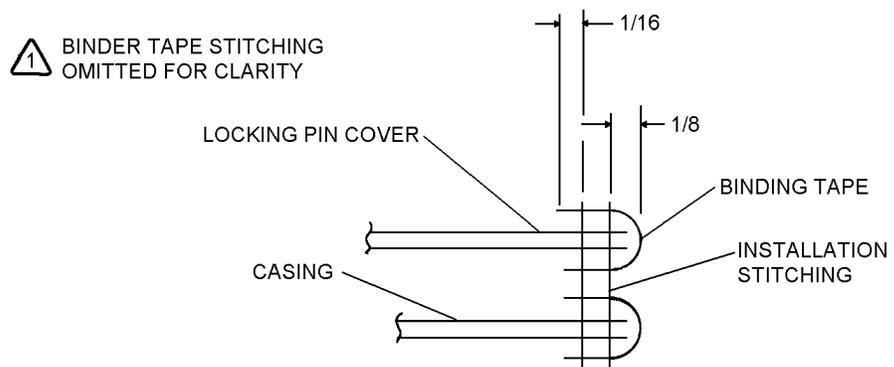

Figure 17-11. Locking Pin Cover Installation
4. Align locking pin cover with mating surface of casing assembly and install in accordance with figure 17-11.